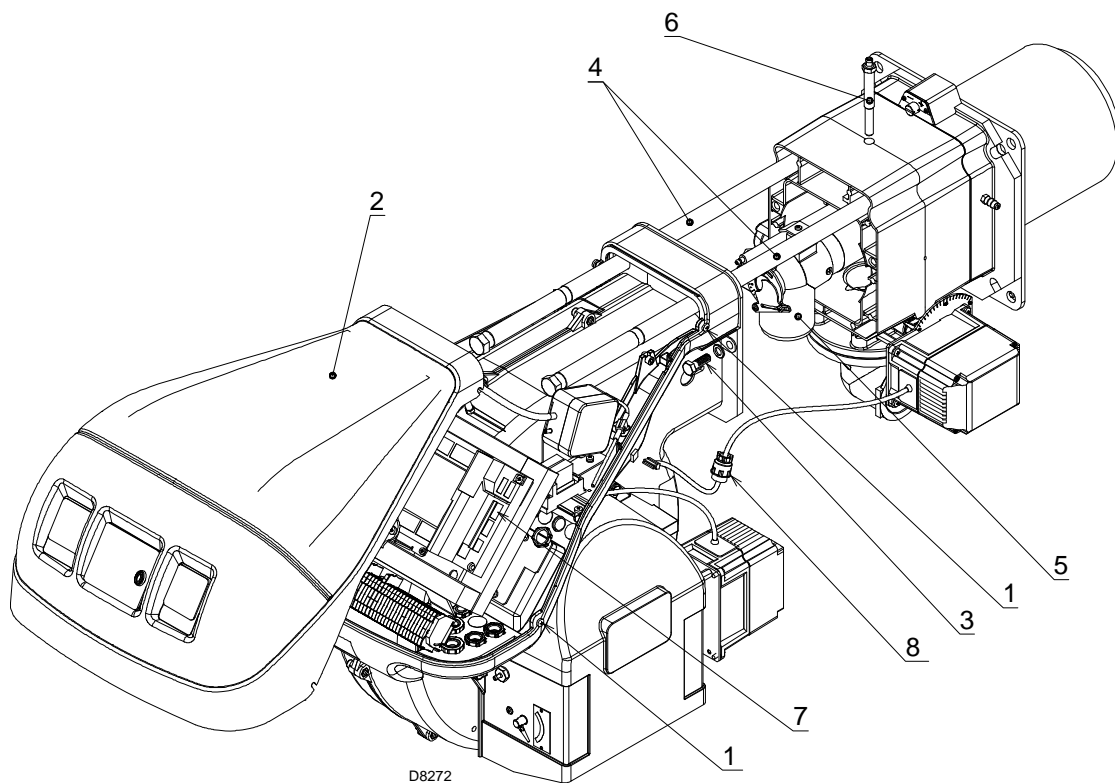

Fig. 38
Check the gas outlet holes for the ignition phase (in the distributor of the combustion head) are free of impurities or rust. If in doubt, disassemble the elbow 5) (Fig. 38).
- Loosen the 4 screws 1) (Fig. 38) and remove the hood 2).
- Connect the servomotor plug 7) (Fig. 38) and tighten the cable grommet 8).